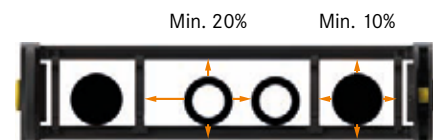

Fig. 1
1) For electric cables, a clearance of at least 10% between the cable and the outer frame must be guaranteed; for pneumatic lines the clearance should be 15%, while for hydraulic hoses the clearance should be at least 20% (Fig. 1)